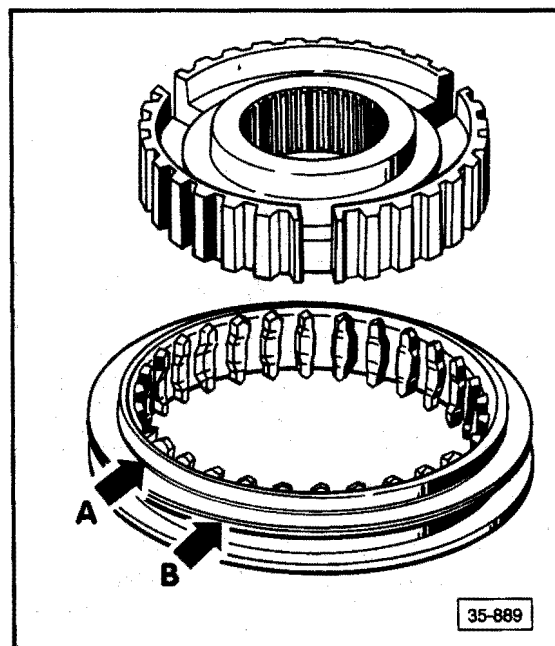

Fig. 10 1st/2nd gear synchronizer sleeve, assembling
- turn synchronizer ring until grooves are in line with keys (installation position, see Fig. 10)